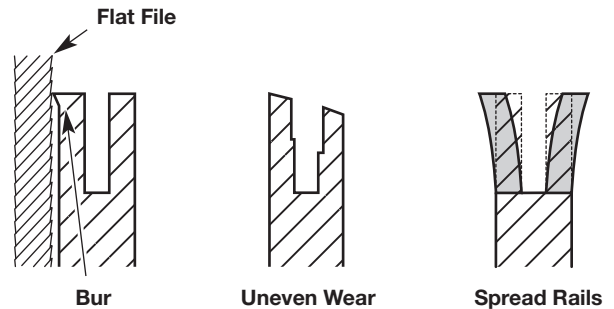

Fig. 46
3. Frequently check the guide bar for damage (Fig. 46). Feathering and burring of the guide bar rails (the ridges on either side of the bar groove) is a normal process of guide bar wear. Such faults should be smoothed with a file as soon as they occur (Fig. 46). A guide bar with the following faults should be replaced: